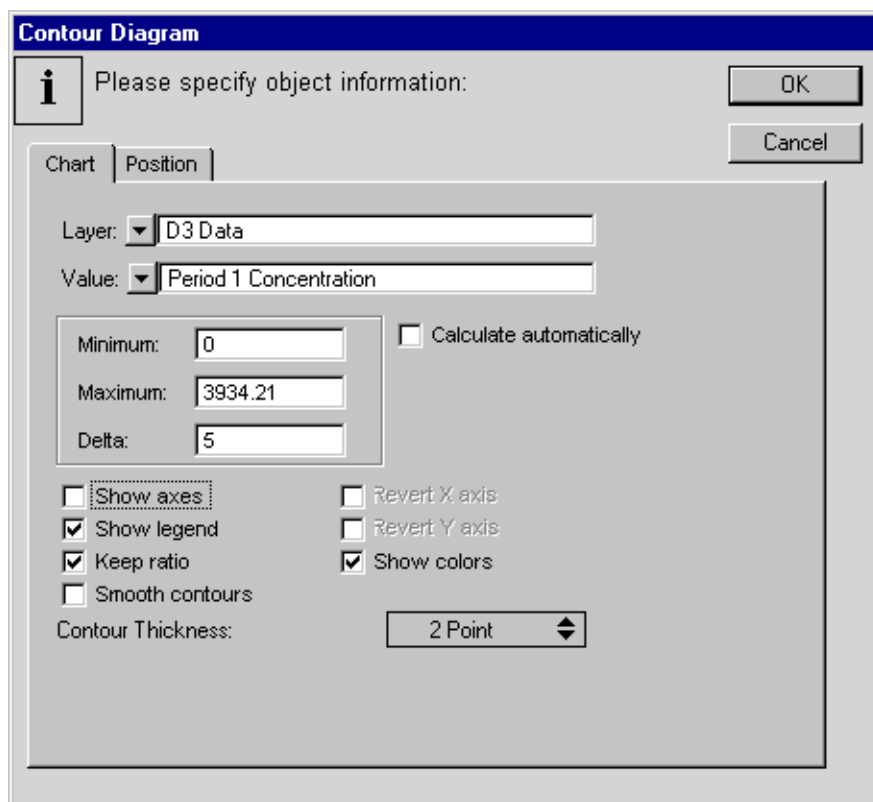
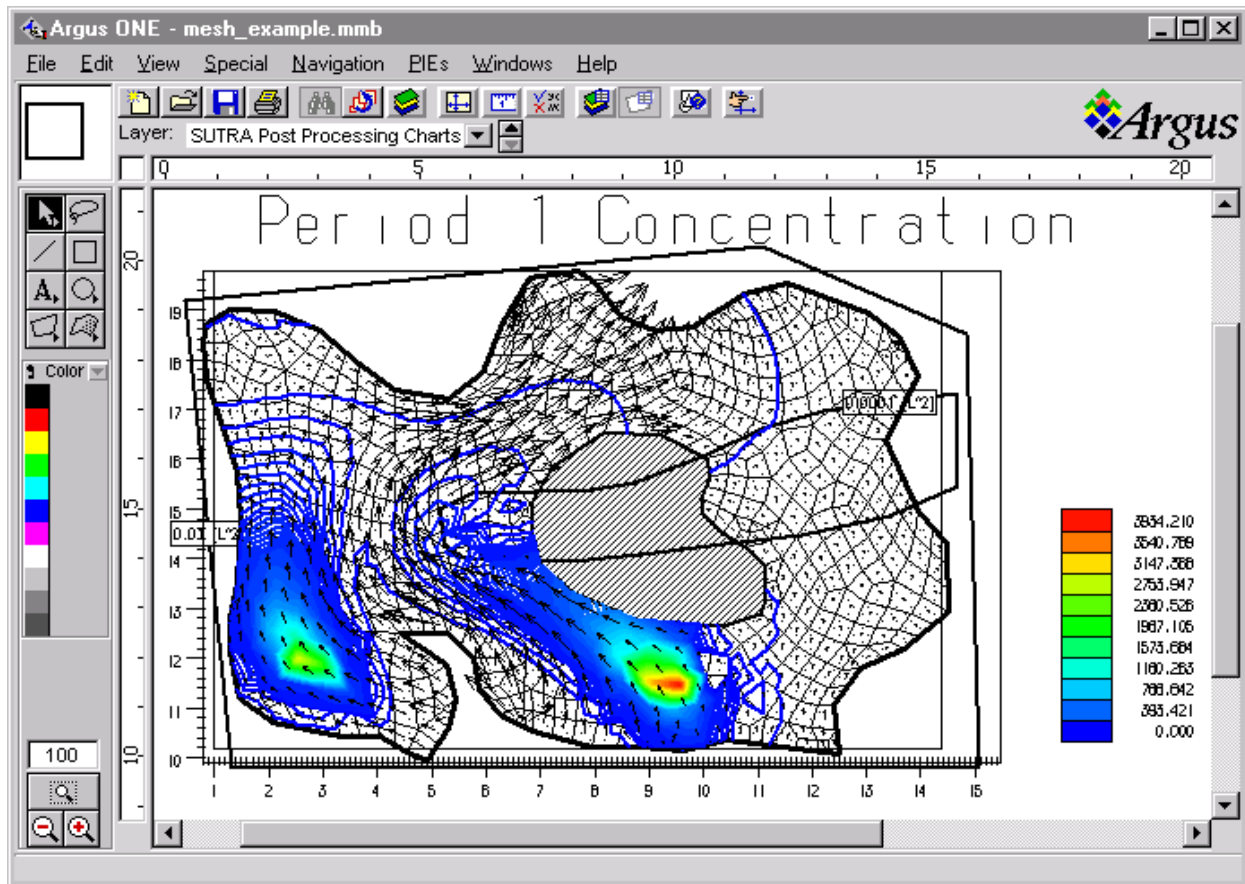

Figure 36. Contour Diagram Window
Figure 37. Concentration Contours with Small Delta, example
2. For example, in the *Contour Diagram window* (Figure 36), the contours may be changed by setting the desired **Minimum**, **Maximum** and **Delta** for the plotted contours. The data range may be obtained by clicking **Calculate Automatically** on and off.
A modified *Contour Diagram* window is shown in Figure 36, and the modified plot is shown in Figure 37. A velocity vector plot may be similarly modified.